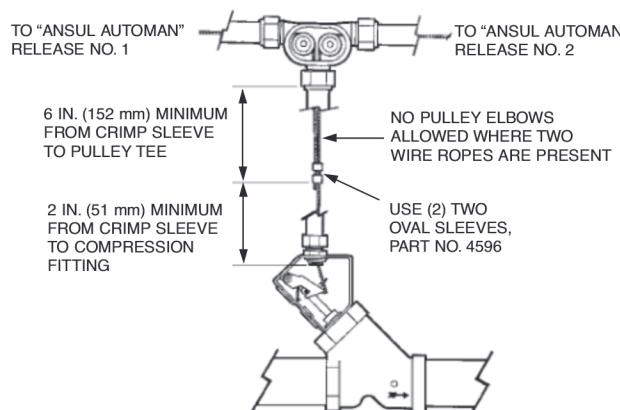

FIGURE 64
- 18. **Note:** If utilizing a pulley tee to operate a single mechanical gas valve from two (2) ANSUL AUTOMAN releases, see Figure 64 for installation instructions. Maximum length of wire rope to each ANSUL AUTOMAN release must not exceed 150 ft. (45.7 m) and maximum number of elbows must not exceed 20.